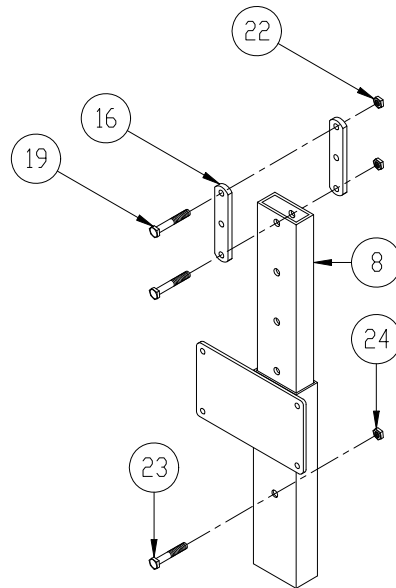

Figure 2-1.
1. Refer to **Figure 2-1**. Loosely attach 2 three-hole plates (16) to the top hole of each canopy extension leg with the hardware shown. Insert the opposite end of canopy extension leg (8) into top of vertical leg of lift. Adjust canopy extension leg to a position that is most suitable for your boat lift installation and fasten in place. Perform this assembly for each vertical leg.